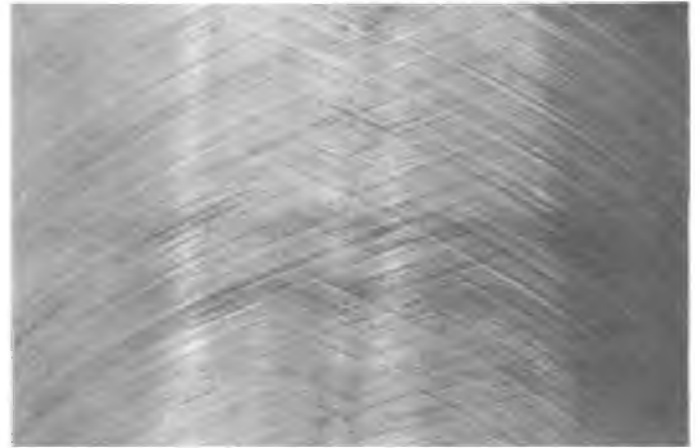

Fig. 49 - Honing Cross-Hatch Pattern
9. If the liner is not scuffed, merely break the glazed surface by stroking at a rate of approximately 30 complete cycles per minute to produce the cross-hatched pattern shown in Fig. 49.
10. If the liner is scuffed, remove material buildup, or scuffing. Do not attempt to remove any isolated dirt scratches as they do not significantly affect operation. Honing out these scratches needlessly reduces liner life. After the surface has been "cleaned up," the hone should be removed and the stones wirebrushed to remove any loading of the stones. The liner should then be honed with the clean stones, using heavy pressure to obtain a good cross-hatched pattern, Fig. 49. Do not remove any more metal than is necessary to obtain desired finish.